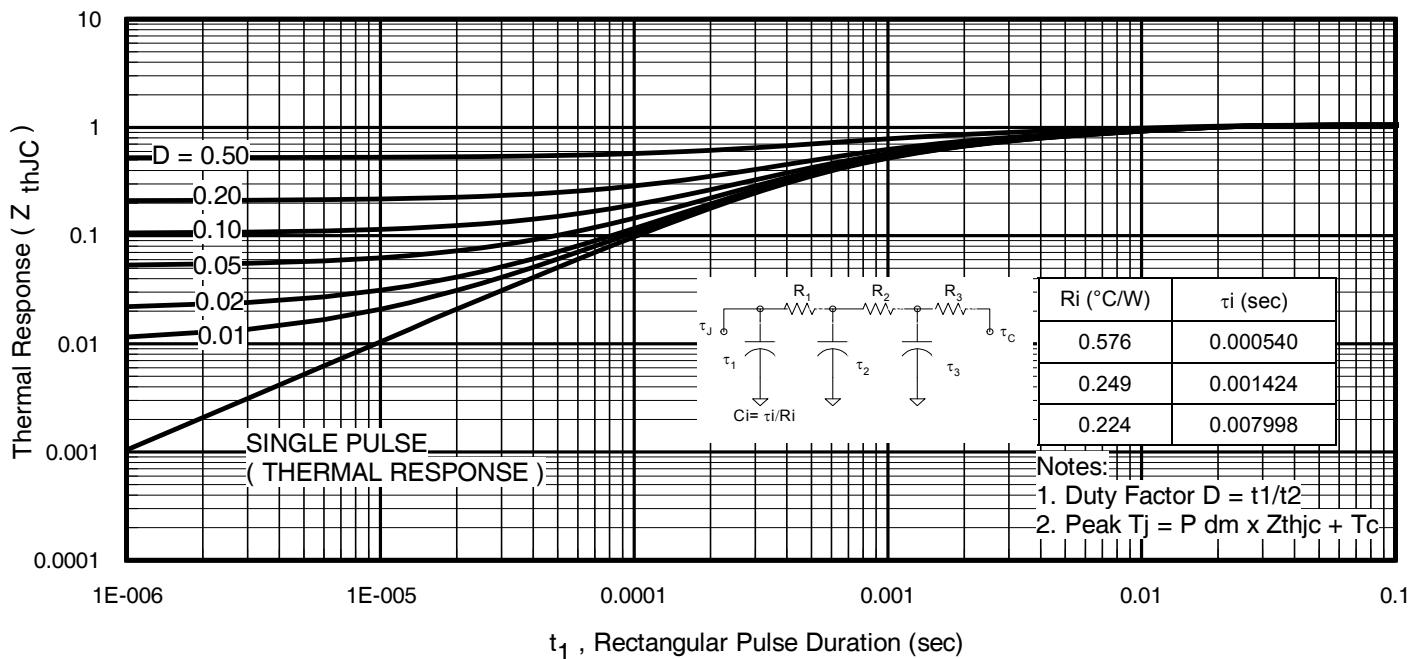
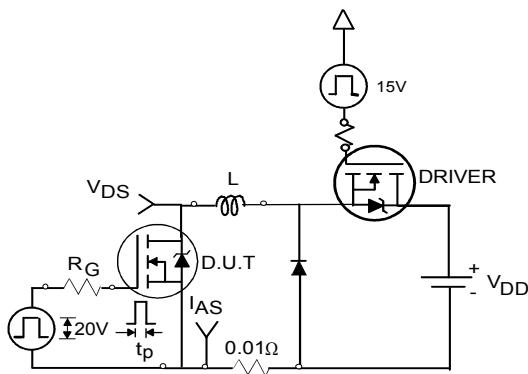

Fig 11. Maximum Effective Transient Thermal Impedance, Junction-to-Case
Fig 12a. Unclamped Inductive Test Circuit
- ① Repetitive rating; pulse width limited by max. junction temperature. (See fig. 11).
- ② starting $T_J = 25^\circ\text{C}$, $L = 0.28\text{mH}$, $R_G = 25\Omega$, $I_{AS} = 33\text{A}$, $V_{GS} = 10\text{V}$. Part not recommended for use above this value.
- ③ Pulse width $\leq 1.0\text{ms}$; duty cycle $\leq 2\%$.
- ④ $C_{oss \text{ eff.}}$ is a fixed capacitance that gives the same charging time as C_{oss} while V_{DS} is rising from 0 to 80% V_{DSS}
- ⑤ Limited by $T_{J\max}$, see Fig.12a, 12b, 15, 16 for typical repetitive avalanche performance.
- ⑥ This value determined from sample failure population. 100% tested to this value in production.
- ⑦ When mounted on 1" square PCB (FR-4 or G-10 Material). For recommended footprint and soldering techniques refer to application note #AN-994.
- ⑧ Refer to D-Pak package for Part Marking, Tape and Reel information
3. Equation below based on circuit and waveforms shown in Figures 12a, 12b.
$Z_{\text{thJC}}(D, t_{av})$ = Transient thermal resistance, see figure 11